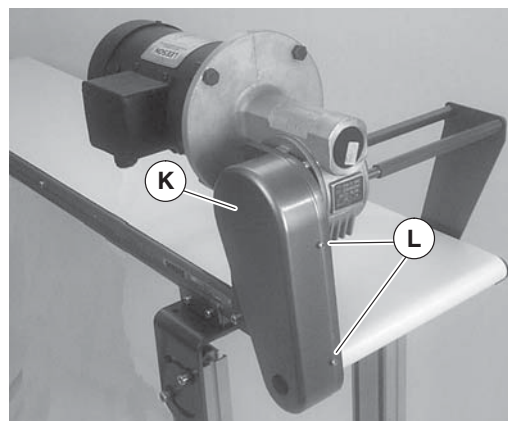

Figure 18
11. Install cover (Figure 18, item K) with four screws (L). Tighten to 35 in-lb (4 Nm).
1. Remove four screws (Figure 18, item L) and remove cover (K).
4. Install cover (Figure 18, item K) with four screws (L). Tighten to 35 in-lb (4 Nm).
6. Install cover (Figure 18, item K) with four screws (L). Tighten to 35 in-lb (4 Nm).